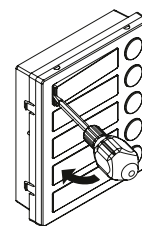

Fig. 4
- Move the screwdriver to the left as shown in **Fig. 4** to extract the card name holder;